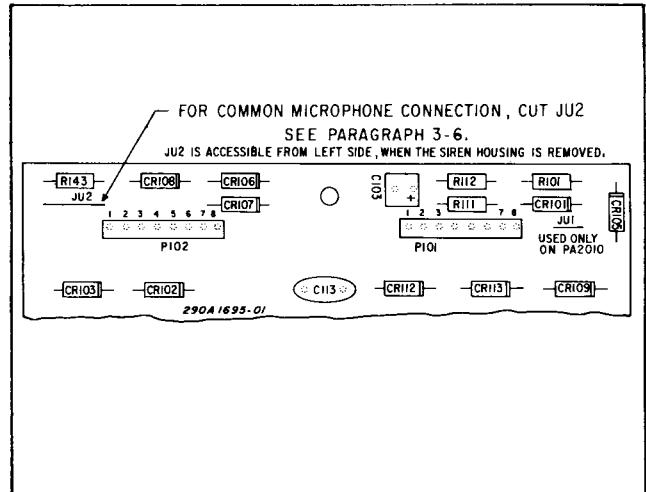

Figure 3-5 Location of Jumper JU-2
2. Cut JU2, on the front of the Main Circuit Board. (See figure 3-5).